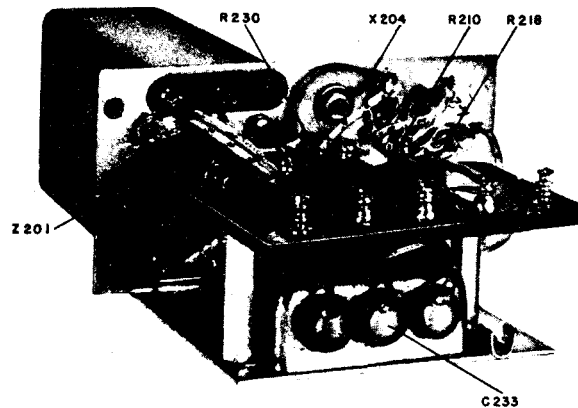

Figure 2-18 First I-F Assembly
d. I-F AMPLIFIER CIRCUIT. (See figures 2-18, 2-19, 2-20, 2-21.)—Two type 12SK7 triple-grid amplifier tubes are utilized as intermediate-frequency amplifiers. The output of the converter tube V202 is fed into the grid of the first intermediate-frequency amplifier tube V204 through the interstage transformer Z201. The plate of the first i-f amplifier tube V204 is coupled to the grid of the second i-f amplifier tube V205 by the second interstage transformer Z202. The plate of the second i-f amplifier tube is coupled through the third i-f transformer to the diode detector of the 12SQ7.